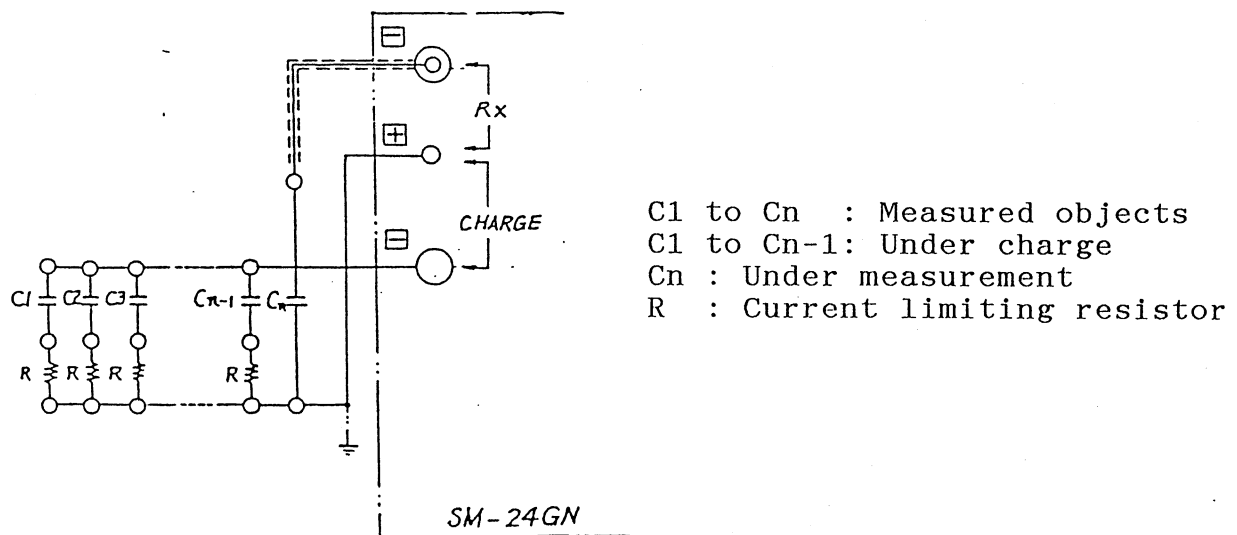

Figure 12 How to Use Charge Terminals
2) When output terminals are used. (See Figure 12.)
When precharge is required for continuous measurement of automatic equipment, etc., conduct connection as shown in Figure 12.